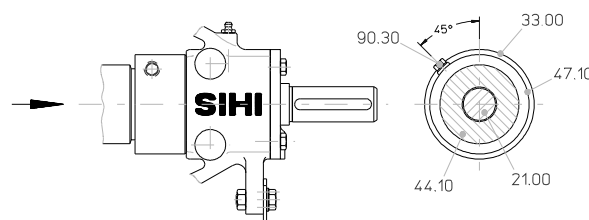

fig. 9
- Assembly of the insert unit acc. to fig. 2. Under assembly the seal cover 47.10 with the vent screw 90.30, as shown in the fig.9, has to be fitted into the bearing bracket 33.00.